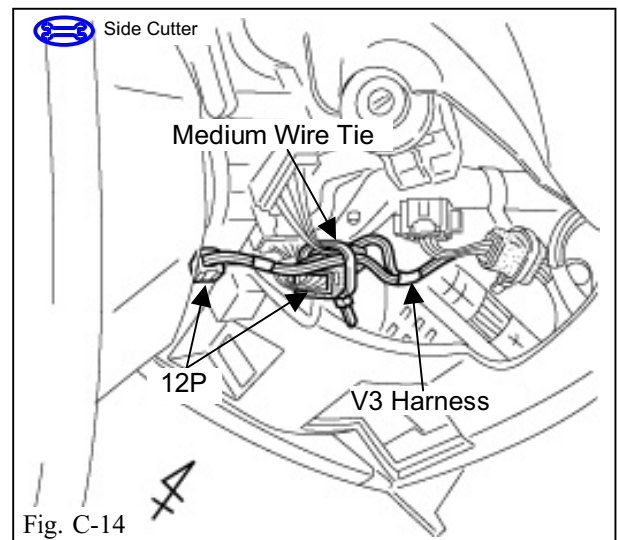

Fig. C-14
28. Plug in the V3 harness' 12P connectors between the vehicle harness 12P connector and the steering wheel area. (Fig. C-14)
29. Secure the V3 harness' 12P connectors to the vehicle harness with one medium wire tie. (Fig. C-14)